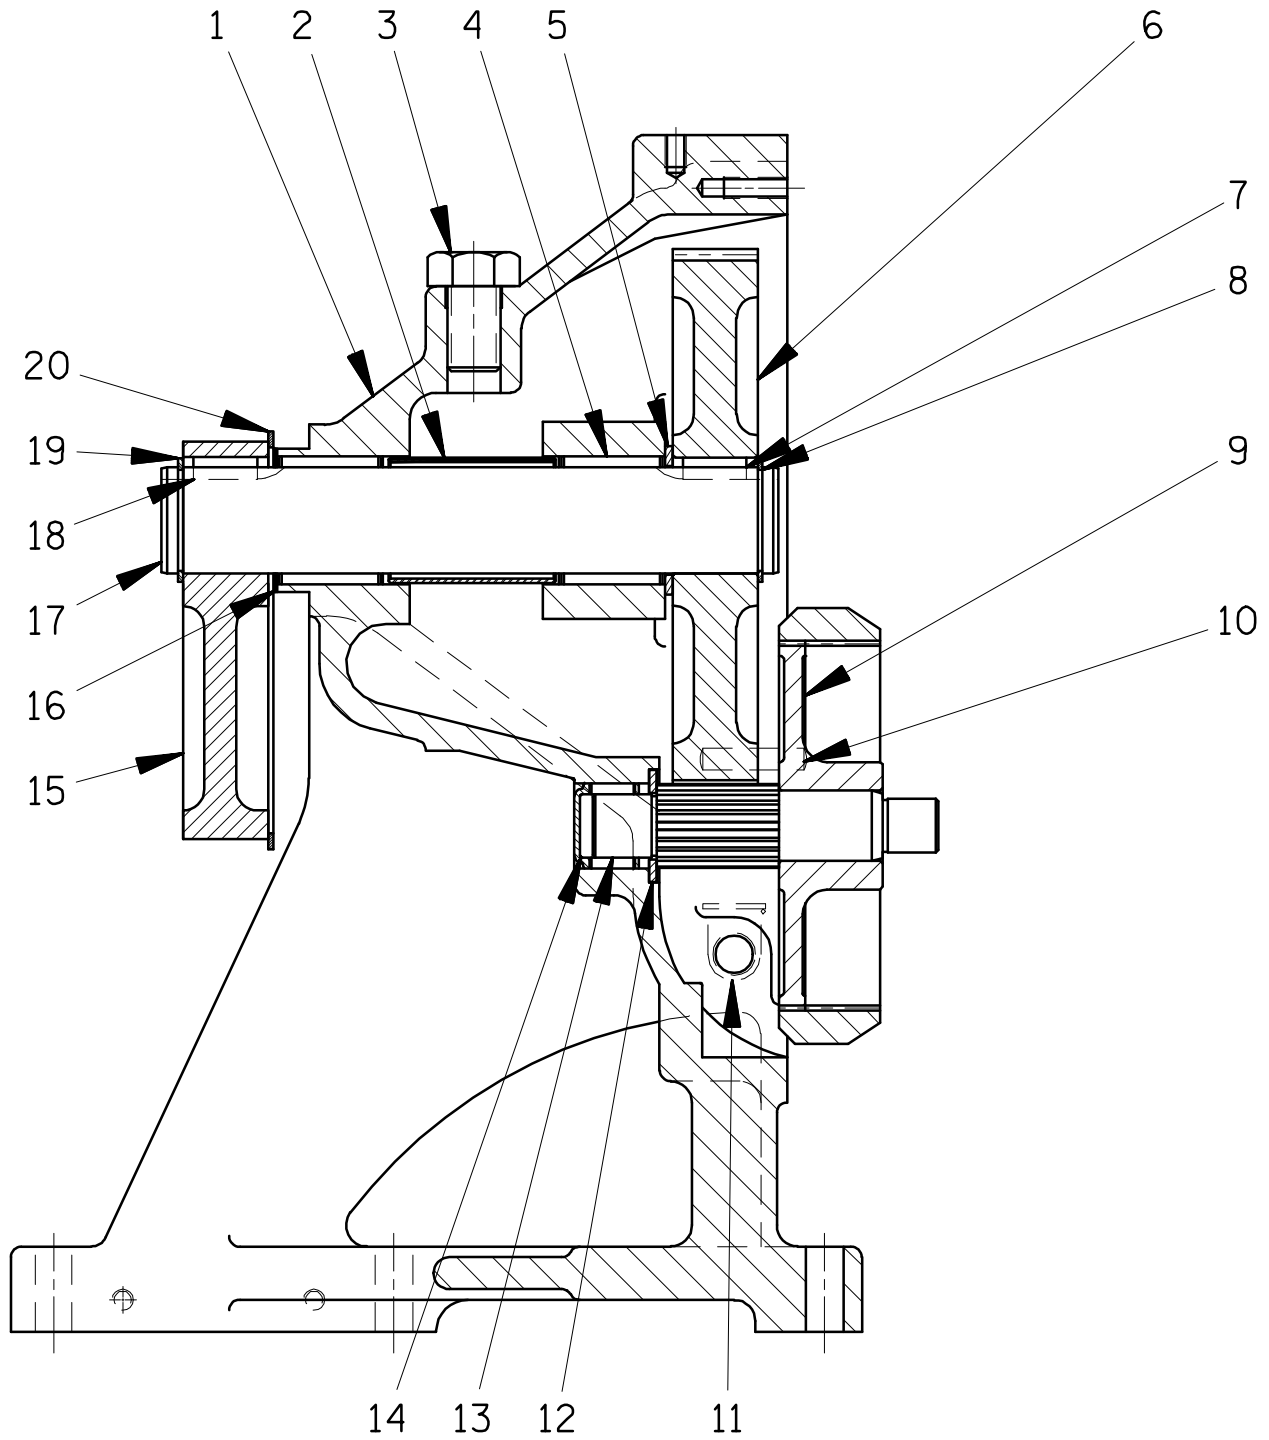

Figure 4. 44161-007 Gearbox Assembly
Removing the snap ring (6) and slide the plunger rod assembly (20) off the eccentric cam drive shaft (17, Figure 4).
(Figure 4)